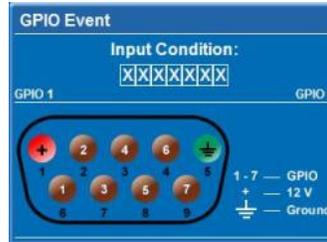

Figure B-15 GPIO Output Helper
- If a **GPIO** command string is needed, click the **GPIO Output Helper** button for instructions on how to create the command structure. **NOTES:** 1) The **Output** field contains 7 blocks which refer to the 7 I/O pins on the GPIO connector. Pin 1 = +12V and Pin 5 = Ground. These are not included. 2) Clicking a block toggles between H, L, and X. See **Figure B-15** See Appendix D: Serial Command Reference for detailed information.